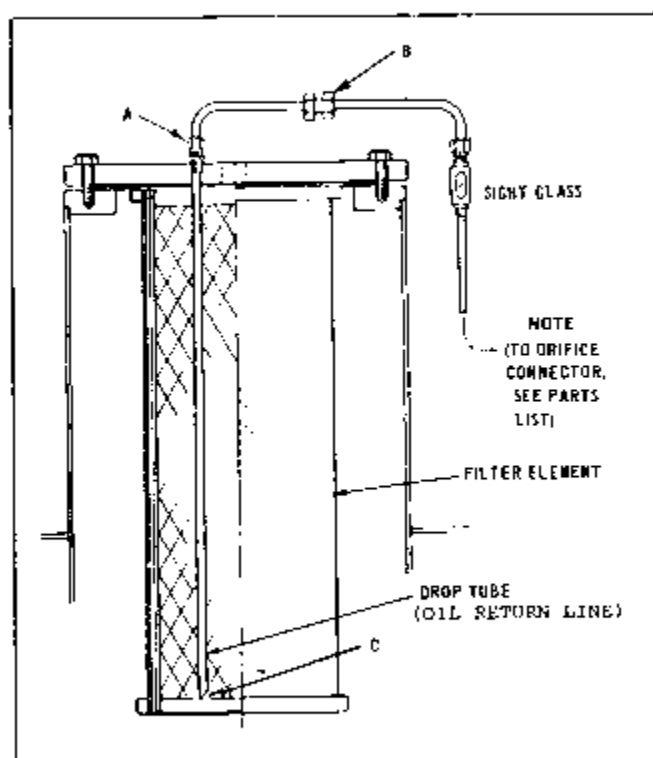

FIGURE 20
2. Disconnect necessary piping at separator cover. Refer to Figure 18. Necessary couplings have been provided. The oil return line must be first separated at coupling B, Figure 20, loosened at fitting A on the separator cover and then the line pulled up out of the separator.
The oil return line sight glass (Figure 18) serves to visually ascertain that any oil accumulation at the bottom of the air/oil separator is being removed (Ref. Figure 20). This sight glass should be observed daily (during operation) for an indication of oil flow. If glass shows completely full of oil it indicates that the oil line is clogged and oil is not being removed. This results in excessive oil consumption and oil in service lines. If clogging is indicated remove and clean the orifice fitting (See note in Figure 20) by blowing with reverse flow of air.